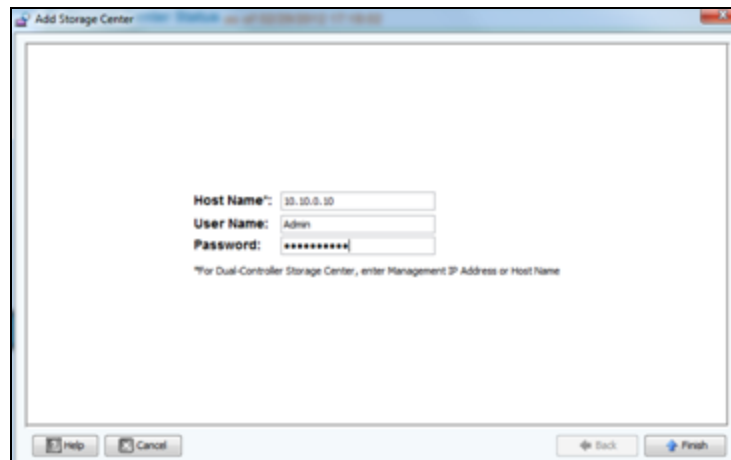

Figure 2.5: Specifying the credentials of the target Dell Compellent Storage Center
10. In Figure 2.5 that appears, specify the following: